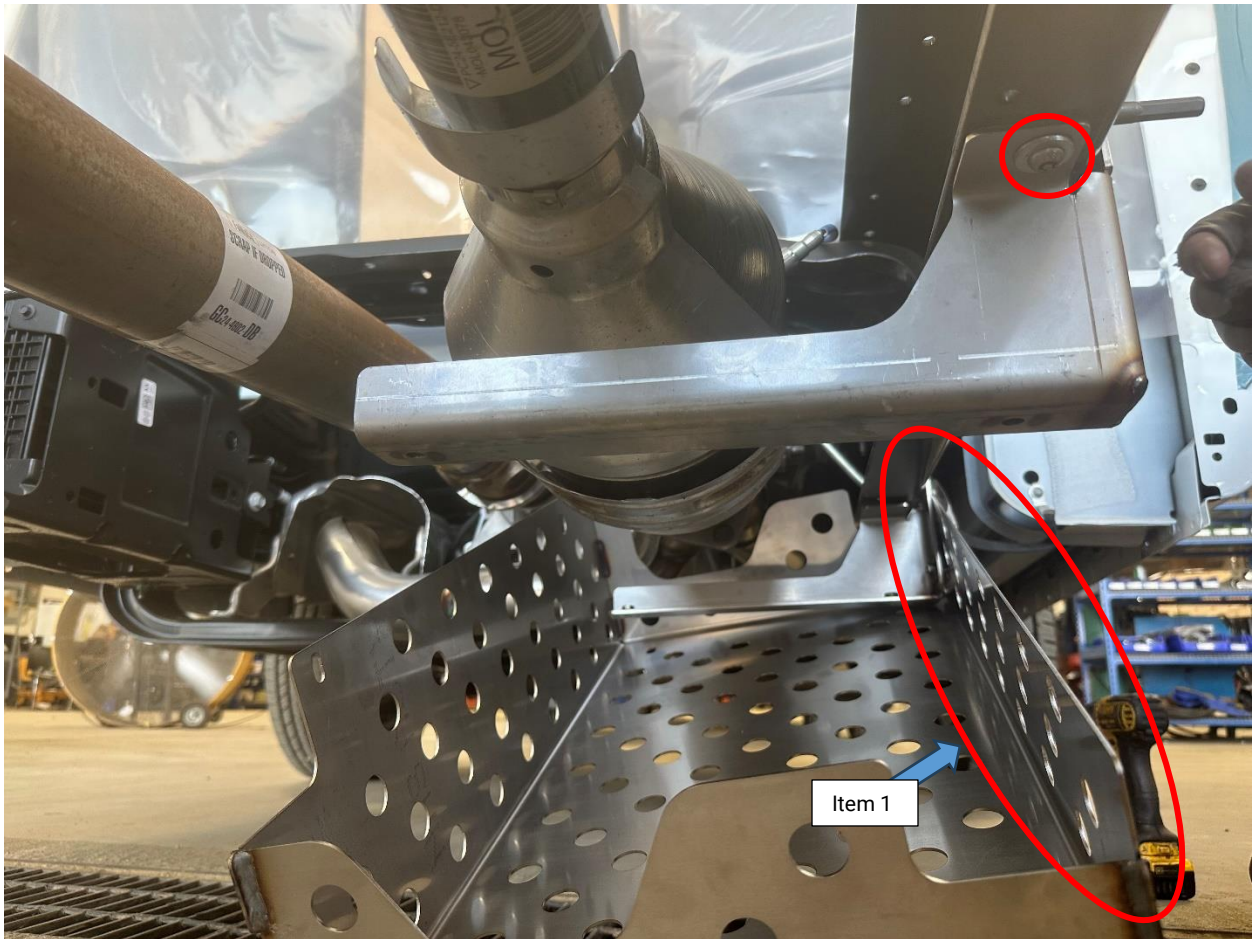

Figure 3
C. Using the 5/16" hardware, bolt brackets as seen below. See Figure 3.
D. Place the lower cat guard under the catalytic and position the flat face facing the passenger side. See Figure 3 Item 1.